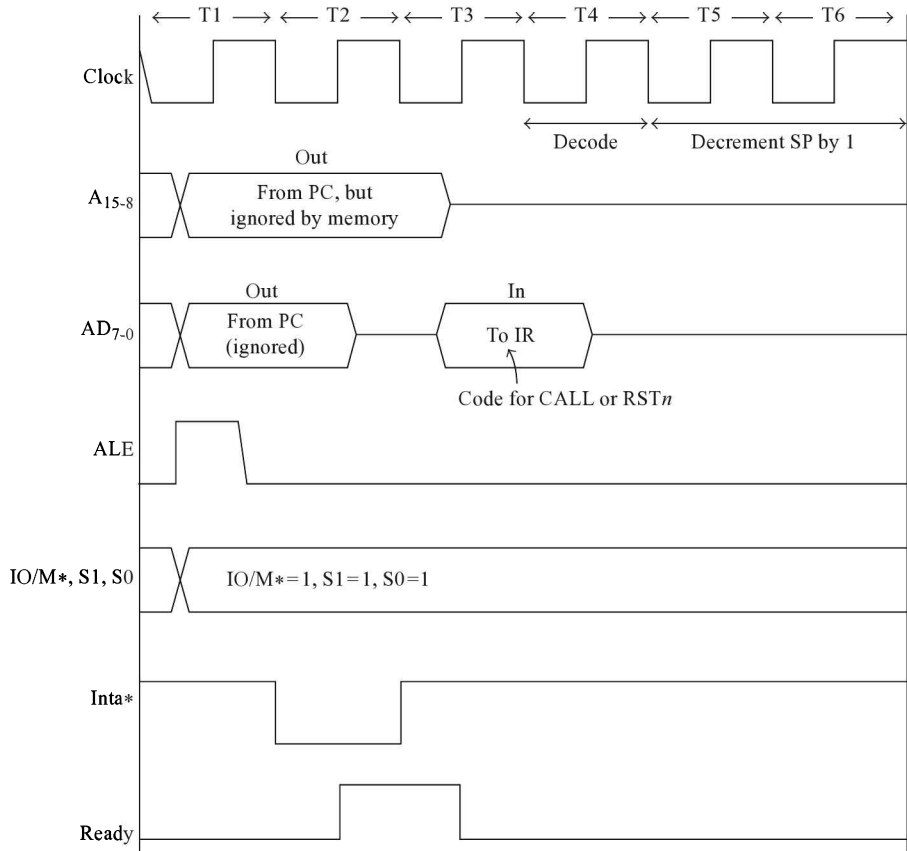

Fig. 18.10 Interrupt acknowledge (INA) machine cycle
8259 interrupt controller is capable of sending such a CALL instruction to 8085. Intel 8259 is discussed in a later chapter. Note that the CALL instruction does not come from memory in this case. So this M1 machine cycle is not an OF machine cycle from memory. Also, it is not an IOR machine cycle, because INTA* is activated, and not RD*. In this INA machine cycle, IO/M*, S1, and S0 will all be in 1 state. This INA machine cycle is shown in Fig. 18.10. INTA* signal becomes a 1 after the 8085 receives the code for CALL during this INA machine cycle. This INA machine cycle that fetches the code for CALL and decodes it, uses six T states.
3. The interrupt from the I/O port is acknowledged by the 8085 by activating INTA* pin in the T2 state of INA machine cycle. In response to INTA*, an I/O port should send code for an RST n ($n = 0$ to 7) instruction to IR register of 8085 on AD $_{7-0}$ pins. An I/O port chip like Intel 8255 is capable of sending such an RST n instruction to 8085. Intel 8255 is discussed in a later chapter. Note that the RST n instruction does not come from the memory in this case. So this M1 machine cycle is not an OF machine cycle from memory. Also, it is not an IOR machine cycle, because INTA* is activated, and not RD*. In this INA machine cycle, IO/M*, S1, and S0 will all be in 1 state. This INA machine cycle has already been shown in Fig. 18.10. INTA* signal becomes a 1 after the 8085 receives the code for RST n during this INA machine cycle. This INA machine cycle that fetches the code for RST n and decodes it, uses six T states. Now the 8085 knows that it has to transfer control to the ISS at location $n * 8$. For example, if the instruction received was RST6, the control should be transferred to the ISS at $6 * 8 = 0030H$. This address will be internally stored in the WZ register pair by the control unit of 8085. Now it is required to first of all save on the stack top the return address available in the PC, before branching to the ISS.